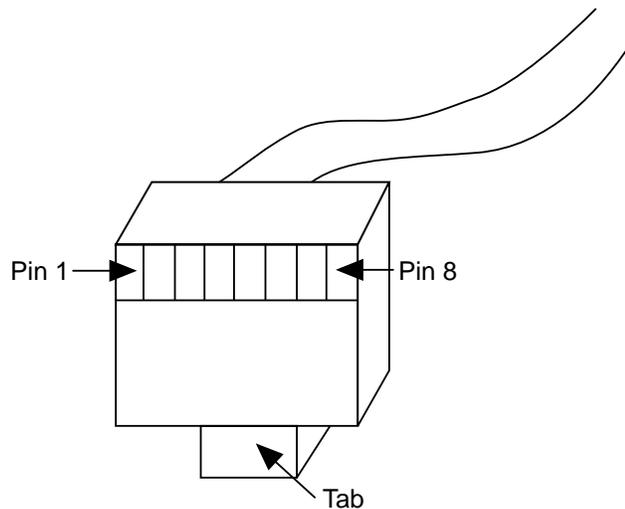

Figure 2-2. 8-Pin Asynchronous Modular Cable Connector
- a. To connect the ARU directly to the VIS, use a 25-pin female connector to make a null modem connection to an asynchronous port on the VIS. Use an 8 conductor cable with modular jacks to connect the ARU to the VIS (Figure 2-2).
- a. To connect the SCCS directly to the VIS, use a 25-pin female connector to make a null modem connection to an asynchronous port on the VIS. Use an 8 conductor cable with modular jacks to connect the ARU to the VIS (Figure 2-2).